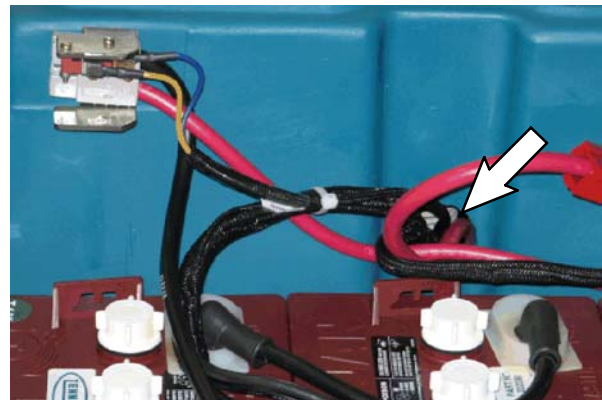

FIG. 4
6. Route the other end of the jumper harness (7) along the main wire harness, through the hole in the back of the battery compartment, and to the rear panel. Refer to Fig. 4.